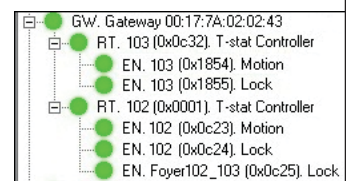

Figure C9
13. See the final **Online Network** tree in Figure C9.
When steps 1-5 below have been performed, the **Online Network** tree in SysMon will typically look as in the example in *Figure C9*: